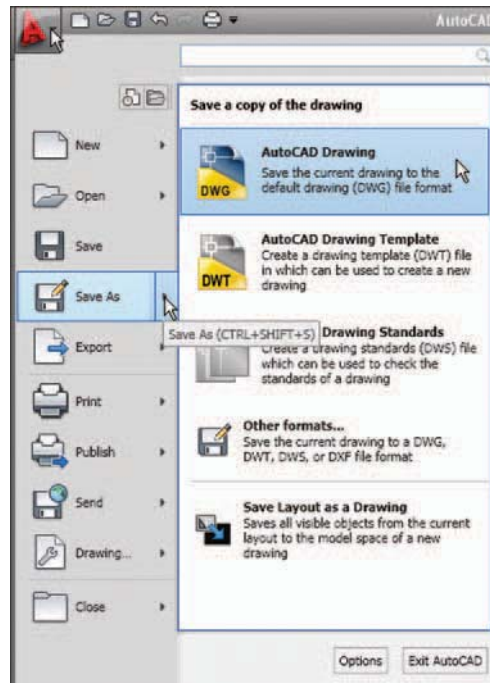

Fig. 4.20 Calling **Save As**
1. Left-click on **Save As** in the menu appearing with a left-click on the AutoCAD icon at the top left-hand corner of the screen (Fig. 4.20).